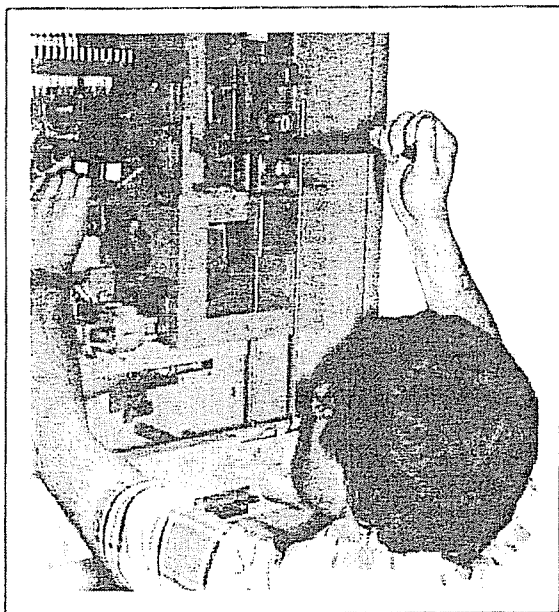

Figure 15
3. Using the manual charging handle, slowly charge the springs until the holes in the outer spring guide align with the bottom end of the inner spring guide. See Figure 15.